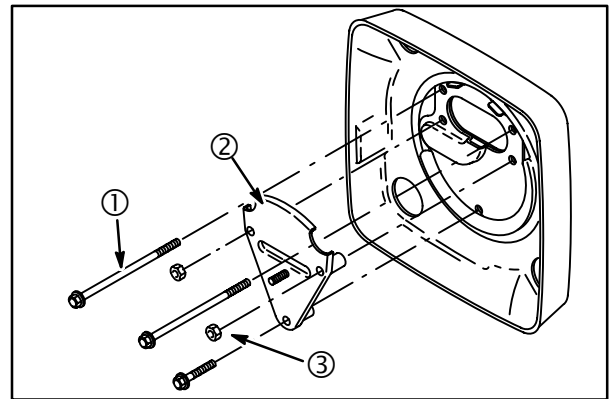

Fig. 39
1. Install new air cleaner mounting gasket with adhesive side toward air cleaner base, **Fig. 39**.
3. Install carburetor shield (2).
4. Install nuts (3) and screws (1) finger tight.